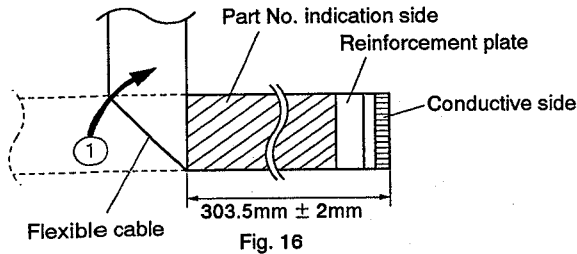

Fig. 16
1. Bend the Flexible cable as shown in Fig. 16.